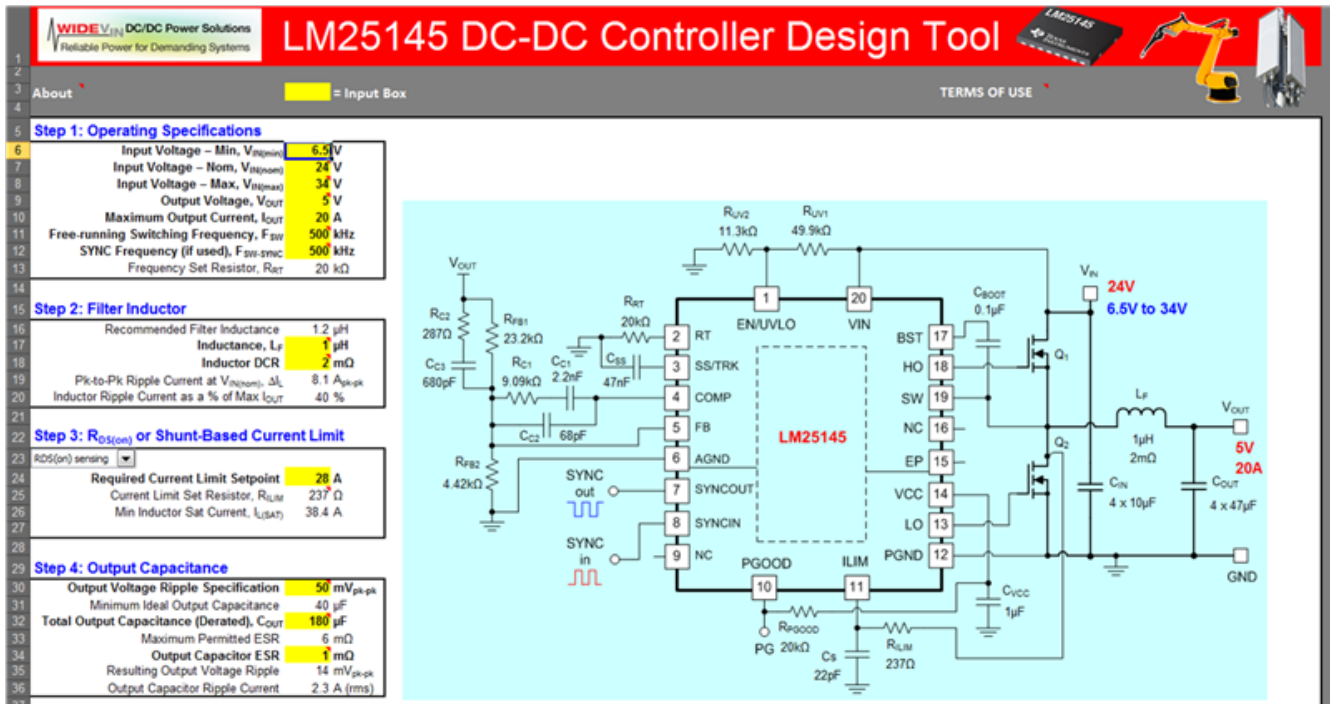
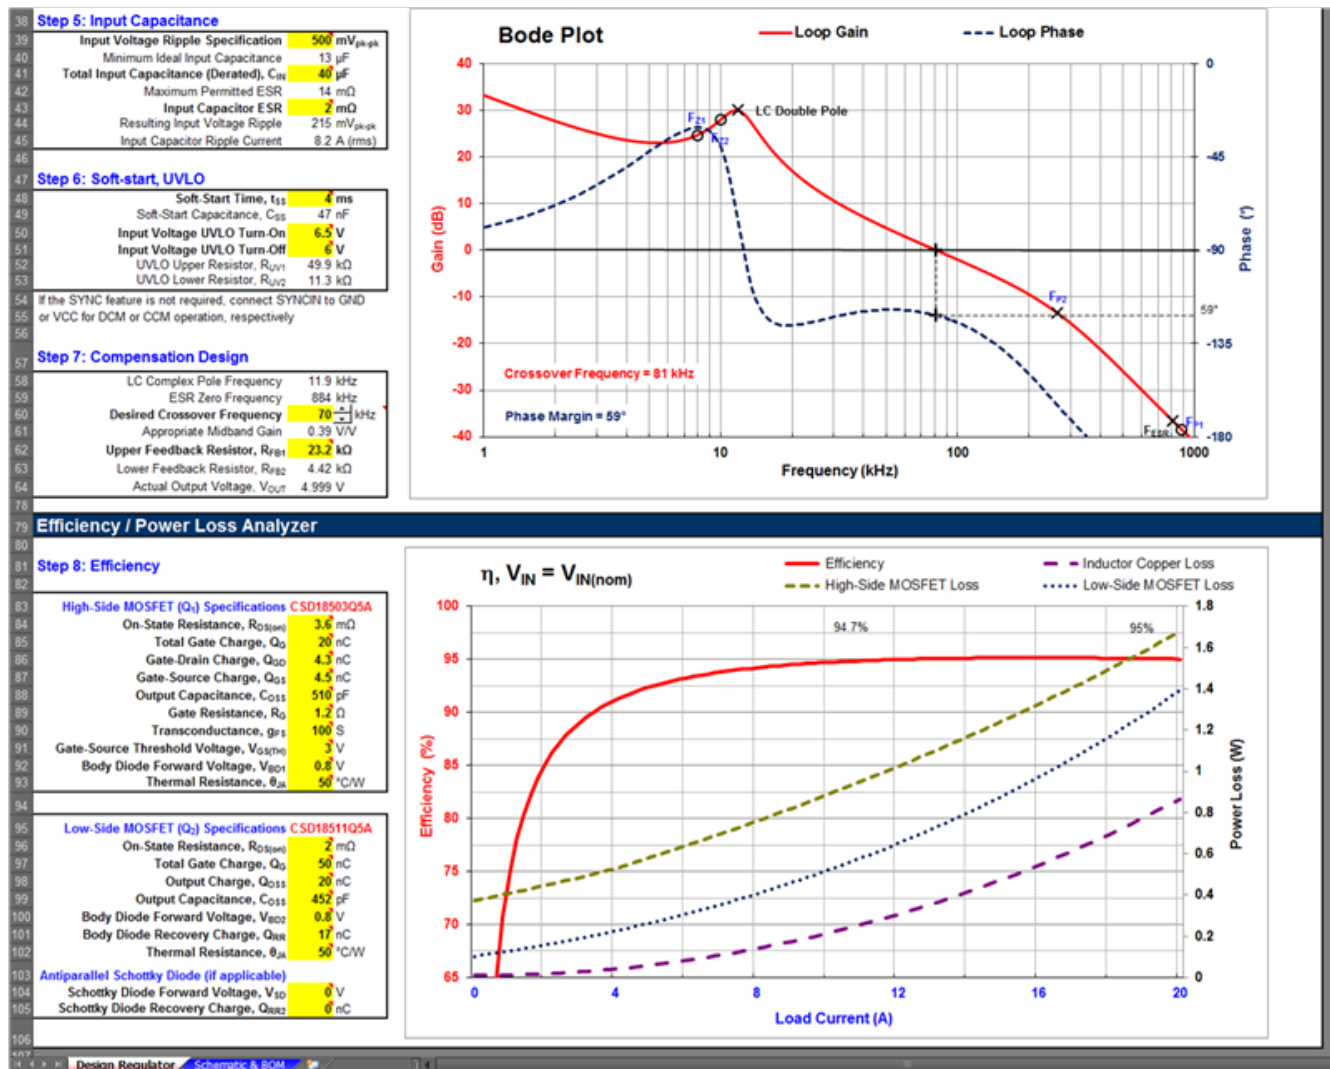

Figure 3. Buck-Controller Quick-Start Calculator – the Schematic is Auto-Populated Based on Entered and Calculated Component Values
Figure 4. LM25145 Quick-Start Calculator with Bode Plot, Efficiency and Component Power Loss Analyses
To bridge the divide between ease of use and high-performance power-conversion integrated circuits (ICs), TI offers a range of power design tools, including WEBENCH®, PSPICE simulation models and the TI Designs reference design library. And given the component interdependencies and trade-offs inherent to high-performance solutions, an IC-specific quick-start calculator is another convenient tool to expedite and streamline the design process. For example, the screen capture of the Excel-based controller design tool in Figure 3 illustrates a step-by-step design flow for an LM25145 500-kHz buck-regulator solution with an output rated for 5 V and 20 A. The LM25145 quick-start calculator is available as a free download.
Step 1 in Figure 3 enables the user to enter specifications for input voltage range, output voltage, full load current and switching frequency. Step 2 considers buck inductor selection, and Step 3 considers overcurrent protection. The subsequent design steps shown in Figure 4 assist with input and output capacitance, soft start, undervoltage lockout, and loop compensation component selection.
With calculations based on the parameters entered for the power MOSFETs and passive components, Figure 4 also shows the predicted Bode plot and regulator efficiency sweep. Application example No. 1 from the LM25145 data sheet presents more details related to this particular design, including recommended power stage components, operating waveforms and printed circuit board (PCB) layout guidelines for high density and low electromagnetic interference (EMI).